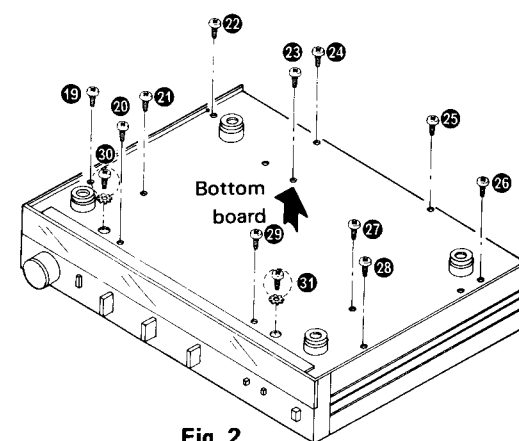

Fig. 2
2. Remove the 11 setscrews [Fig. 2: ⑰ ~ ⑳] of bottom board.
2. Remove the 4 (red) setscrews [Fig. 2: ⑳ ~ ㉑, Fig. 3: ㉒ ~ ㉓] of front panel, and carefully pull out the volume knob toward you.